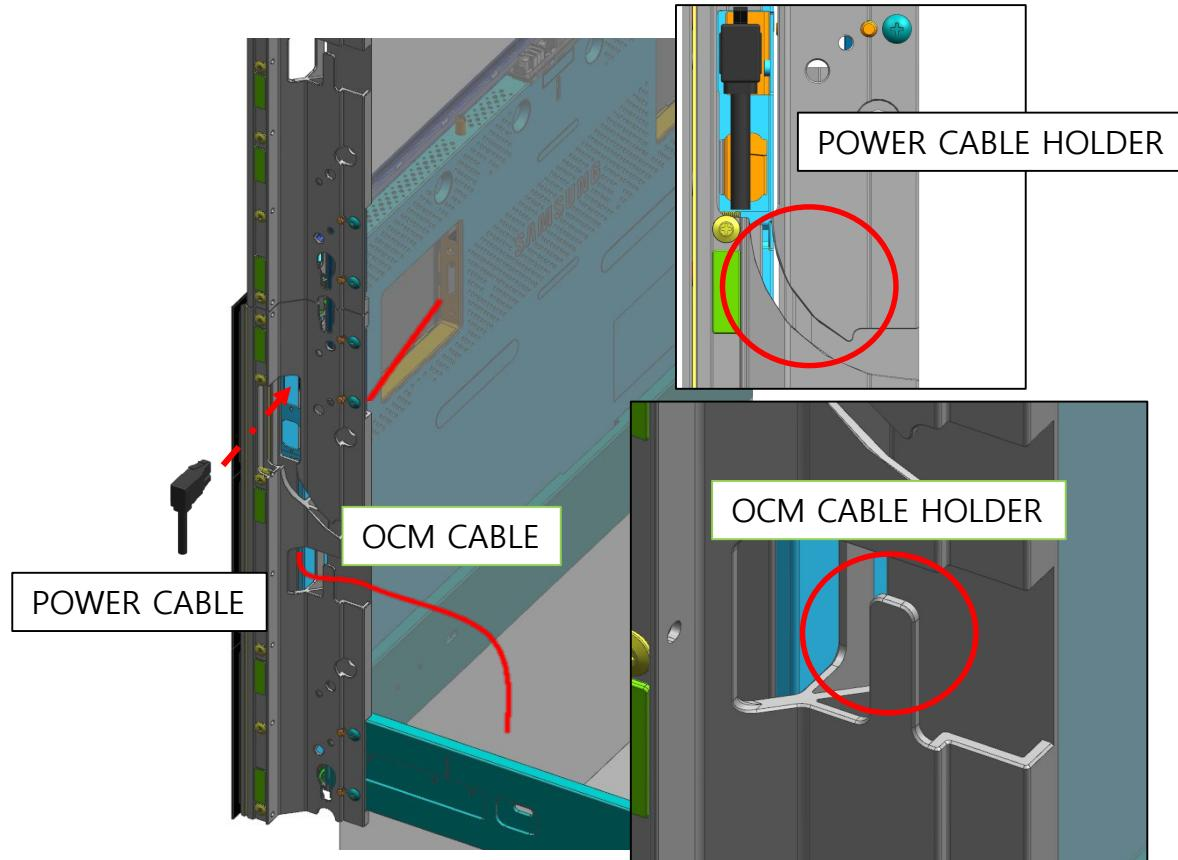

Fig.2
* The left CABINET Z SEAM is adjusted by Fastening ⑧ Screws as shown in the figure. (Fig.2)